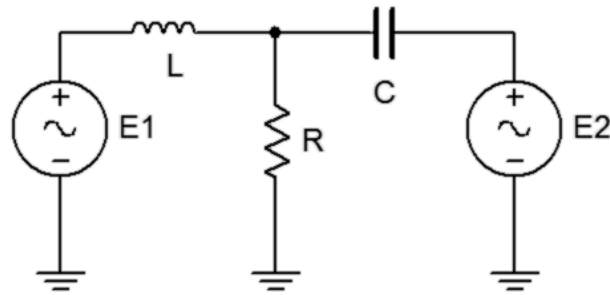

Figure 10.1
1. Typical function generators have a  $50\ \Omega$  internal impedance. These are not shown in the circuit of Figure 10.1. To test the Superposition Theorem, sources  $E1$  and  $E2$  will be examined separately and then together.
2. Consider the circuit of Figure 10.1 with  $C=100\ \text{nF}$ ,  $L=10\ \text{mH}$ ,  $R=1\ \text{k}\Omega$ , using only source  $E1=2\ \text{V p-p}$  at  $1\ \text{kHz}$  and with source  $E2$  replaced by its internal impedance of  $50\ \Omega$ . Using standard series-parallel techniques, calculate the voltages across  $E1$ ,  $R$ , and  $E2$ . Remember to include the  $50\ \Omega$  internal impedances in the calculations. Record the results in Table 10.1.
3. Build the circuit of Figure 10.1 using  $C=100\ \text{nF}$ ,  $L=10\ \text{mH}$ , and  $R=1\ \text{k}\Omega$ . Replace  $E2$  with a  $50\ \Omega$  resistor to represent its internal impedance. Set  $E1$  to  $2\ \text{V p-p}$  at  $1\ \text{kHz}$ , unloaded. Make sure that the *Bandwidth Limit* of the oscilloscope is engaged for both channels. This will reduce the signal noise and make for more accurate readings. Place probe one across  $E1$  and probe two across  $R$ . Measure the voltages across  $E1$  and  $R$ , and record in Table 10.1. Record a copy of the scope image. Move probe two across  $E2$  (the  $50\ \Omega$ ), measure and record this voltage in Table 10.1.
4. Consider the circuit of Figure 10.1 using only source  $E2=2\ \text{V p-p}$  at  $10\ \text{kHz}$  and with source  $E1$  replaced by its internal impedance of  $50\ \Omega$ . Using standard series-parallel techniques, calculate the
6. Consider the circuit of Figure 10.1 using both sources,  $E1=2\ \text{V p-p}$  at 1 kHz and  $E2=2\ \text{V p-p}$  at 10 kHz. Add the calculated voltages across  $E1$ ,  $R$ , and  $E2$  from Tables 10.1 and 10.2. Record the results in Table 10.3. Make a note of the expected maxima and minima of these waves and sketch how the combination should appear on the scope
8. Build the circuit of Figure 10.1 in a simulator. Using Transient Analysis, determine the voltage across the resistor and compare it to the theoretical and measured values recorded in Table 10.3. Be sure to include the  $50\ \Omega$  source resistances in the simulation.